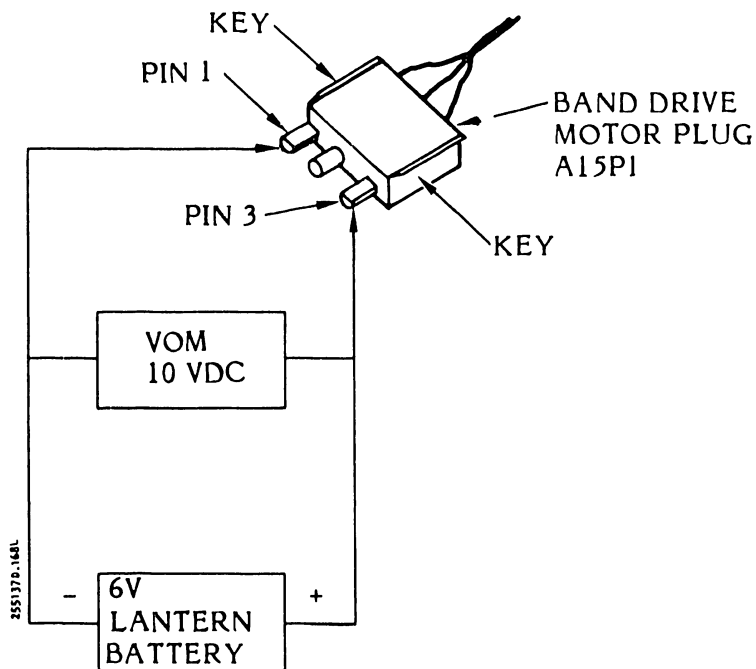

Figure 3-31B. Band Motor Voltage Drop Test
- j. Test the voltage drop (see figure 3-31B) across the motor as follows: